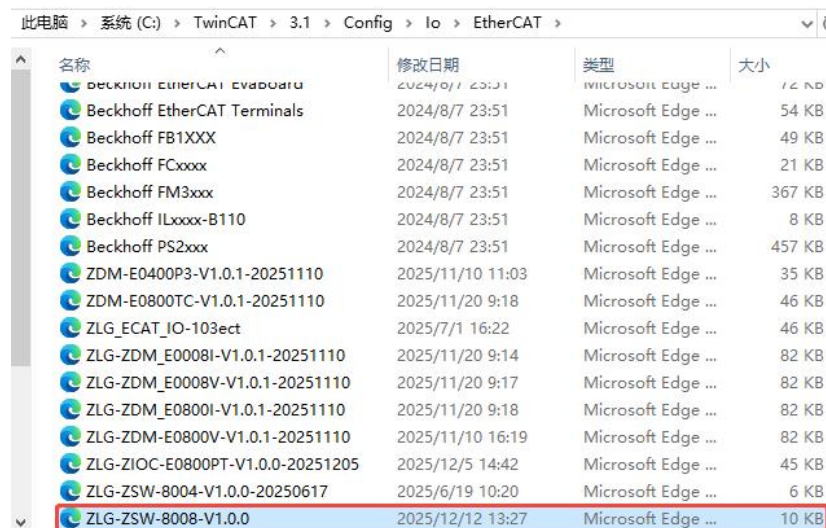

Figure 5.1 ESI File Storage Location
1. Copy the ESI file to be flashed to the path: C:\TwinCAT3.1\Config\Io\EtherCAT. As shown in Figure 5.1.